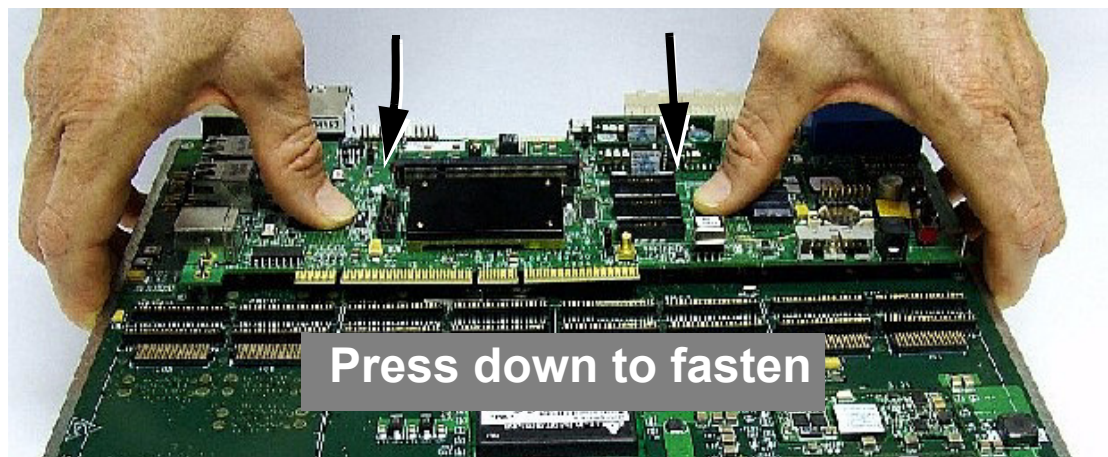

Figure 2-5. Connect Processor board to PIB and press down with fingers ¹
3. Connect processor board to PIB board as shown in Figure 2-5.
4. Ensure a tight fit by pressing down on the processor board **by hand only** until the pins engage (see Figure 2-5.)